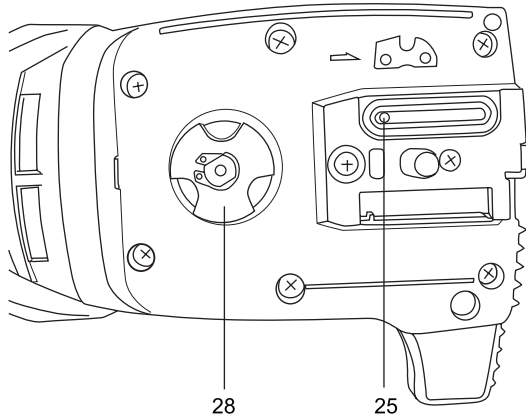

Fig. 38
2. Check the oiling port (25) for clogging and clean if necessary to ensure proper lubrication of the guide bar and saw chain during operation. Use a soft wire small enough to insert into the oil discharge hole (Fig. 38).